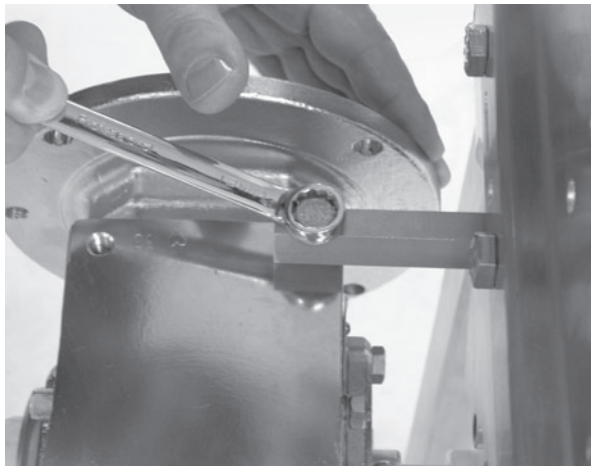

Figure 57
4. Unbolt the drive assembly and slide it off the bearing spindle (**Figure 57**).